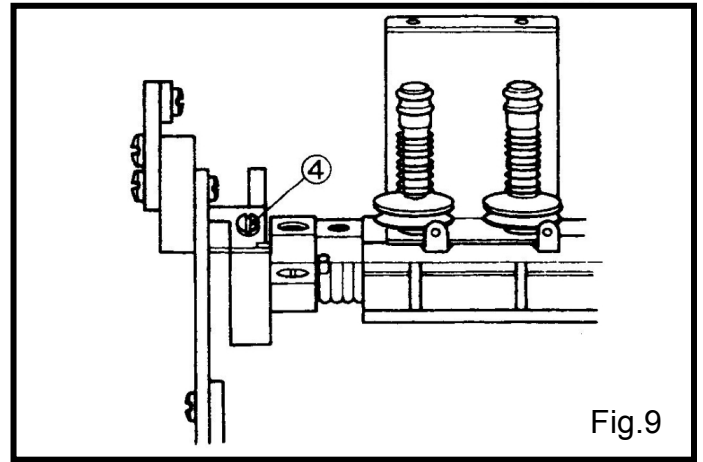

Fig.9
- (1) 放開提昇擺臂(大)的螺絲④。(Fig.9)
- (1) Loosen the screw④ of the presser bar lifter lever(large).(Fig. 9)